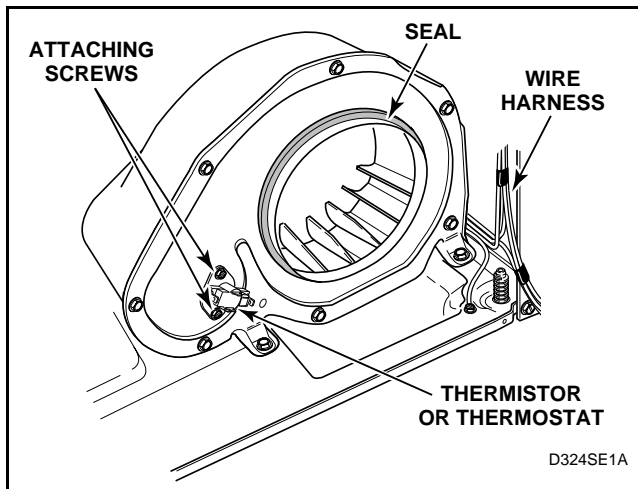

Figure 24
- Disconnect wires and remove thermostat or thermistor attaching screws. See *Figure 24*.
IMPORTANT: When reassembling, be sure seal on exhaust fan cover makes airtight seal on flange of duct. See *Figure 24*. If the seal is installed improperly, the airflow through the exhaust system will be restricted which can adversely affect dryer performance.